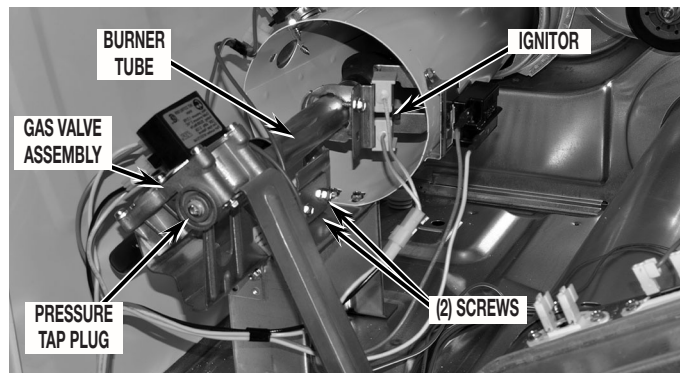

FIGURE 1B
- Disconnect ignitor wires from harness then remove the burner tube by removing the two (2) screws securing it to the burner base. See *Figure 1B*; then continue to “Determining Gas Valve Style” – “Changing the Orifice.”